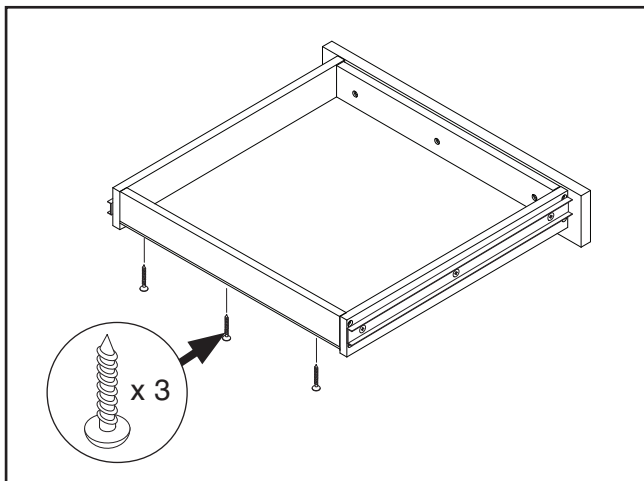

Figure 8. Securing bottom drawer panel to back drawer panel.
7. Secure bottom drawer panel to back drawer panel with (3) #8 x 1¼" wood screws (see **Figure 8**).